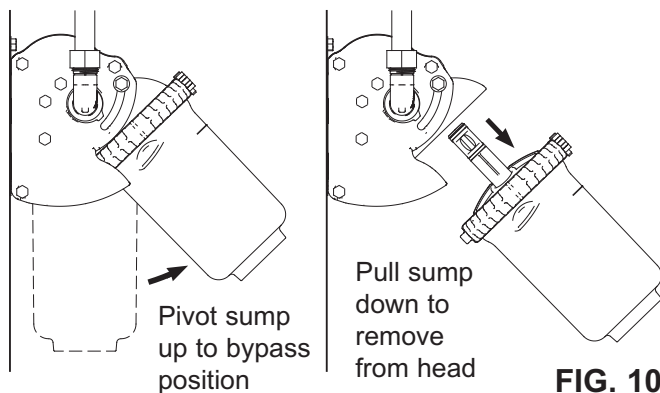

FIG. 10
1. Grasp the lower part of the sump and pull it firmly and slowly toward you, pivoting upward until it stops in the bypass/filter change position (See Fig. 10). You may notice a hissing sound, as a small amount of water (approximately 4 ounces) is expelled into the vent tube to relieve pressure in the sump.